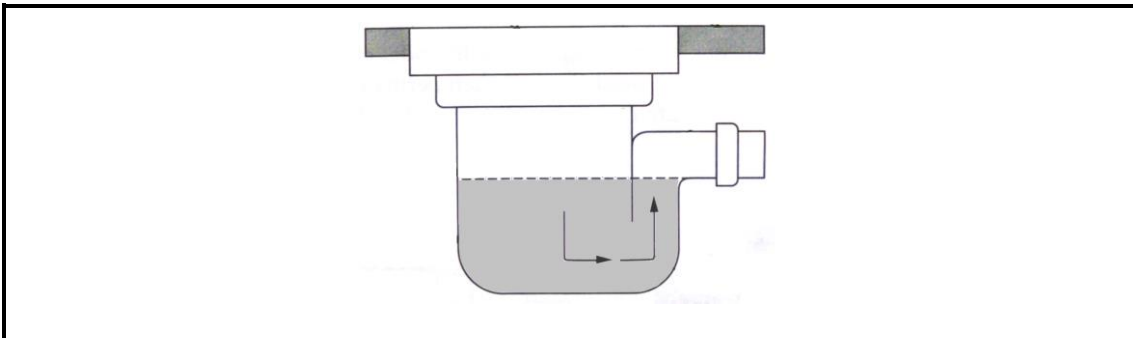

FIGURE 5.2
5.2 Answer the following questions with regard to the drainage fixture in FIGURE 5.2.
5.2.1 What is this drainage fixture in FIGURE 5.2 called? (1)